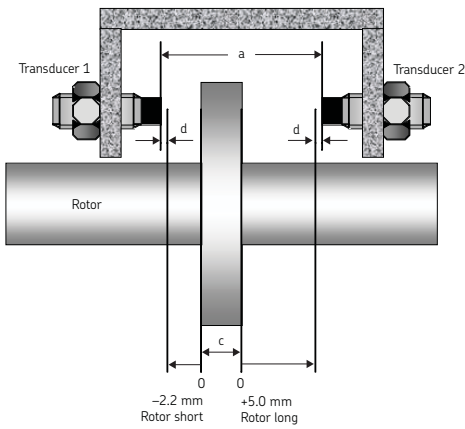

Figure 5
- Usable range: 145 mils = 3.68 mm, from 0.38 ("d" in Figure 5) to 4.06 mm
- Collar thickness ("c" in Figure 5): 100 mm